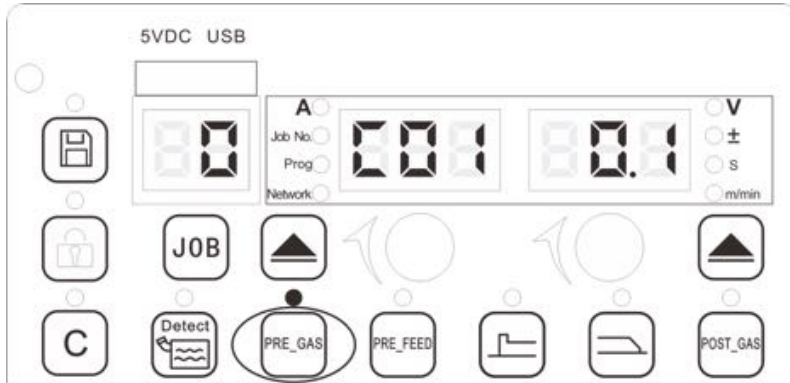

Figure 3-19 Parameters setting view of Pre-gas
1. Press the “Pre-gas” button to activate the pre-gas function and wait for the indicator turns on, the view for Pre-gas is shown in Figure 3-19.